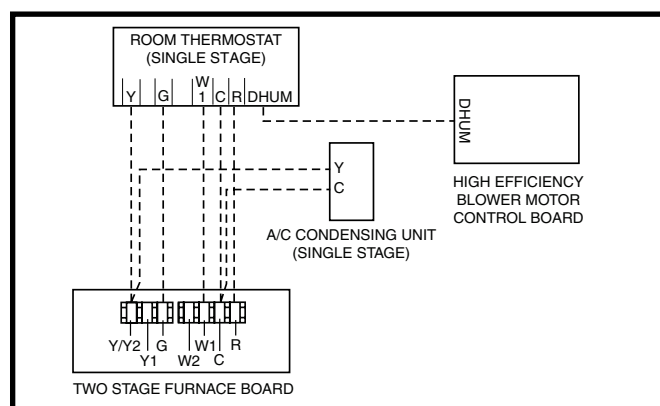
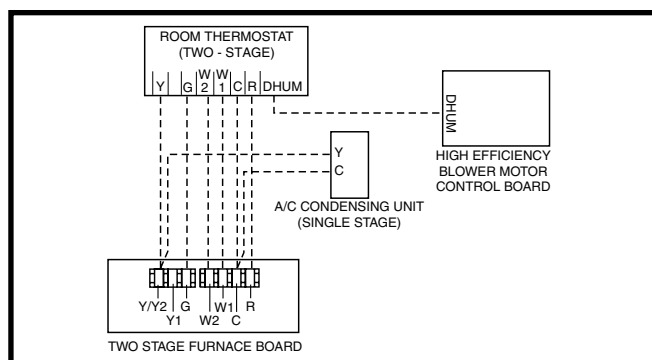
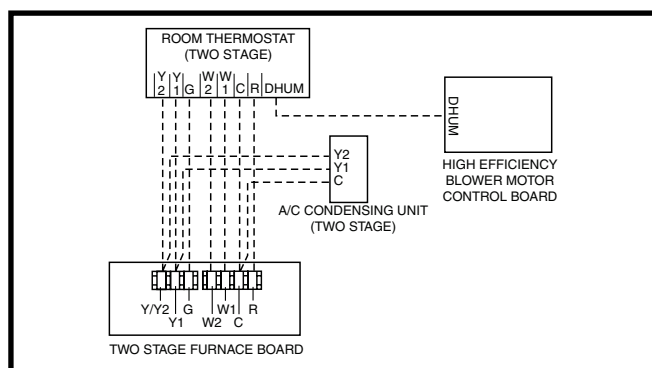

Figure 22. Wiring Configuration 1
Figure 23. Wiring Configuration 2
Figure 24. Wiring Configuration 3
- Connect the thermostat's **W** output to the furnace control boards **W1** terminal. This allows the furnace to always run in low output mode. See Figure 22.
This option uses the full two stage heating capability of the furnace with a single stage outdoor unit. See Figure 23.
This option uses the full two stage heating capability of the furnace with a two stage outdoor unit. See Figure 24.
The Autostaging feature makes it possible to use a single stage thermostat and still receive some of the benefits of 2-stage furnace operation. If Autostage is enabled, the furnace will drop to **LOW** fire after initially starting in **HIGH** fire. After a period of 10 minutes, the furnace will then stage up to **HIGH** fire, until the heating load is met. See Figure 22 and the Low Voltage Connection section on page 25.
- ✓ Verify that all needed thermostat wires are securely connected to the correct leads on the terminal strip of the circuit board. See Figure 22, Figure 23, & Figure 24 \(page 26\).
The operating sequences for the heating, cooling, and fan modes are described below. Refer to the field and furnace wiring diagrams: Figure 21 \(page 25\), Figure 22 \(page 26\), Figure 23 \(page 26\), Figure 24 \(page 26\) & Figure 32 \(page 40\), Figure 33 \(page 41\), Figure 34 \(page 42\), & Figure 35 \(page 43\).